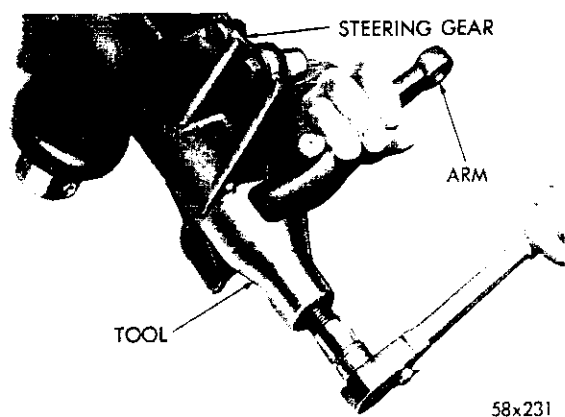

Fig. 29—Removing the Steering Gear Arm
(21) Remove the steering arm nut and washer at the steering gear shaft.
(22) Slide Tool C-3646 up on the steering arm and place the shoe of the puller behind the steering arm (Fig. 29). Tightening the tool center screw against the gear shaft, will pull the steering arm from the gear shaft.